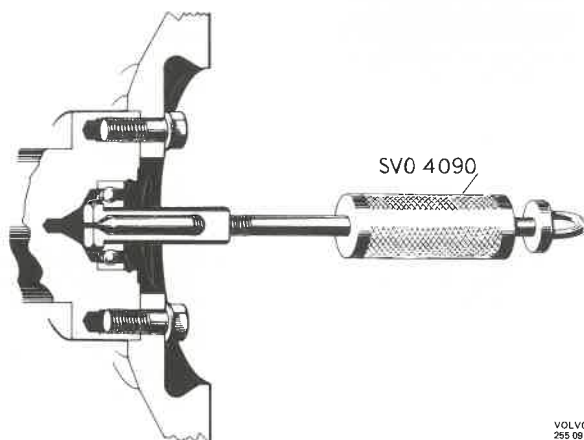

Fig. 41-6. Removing the bearing
1. Remove the circlip from the bearing. Pull out the bearing with puller 4090, see Fig. 41-6.